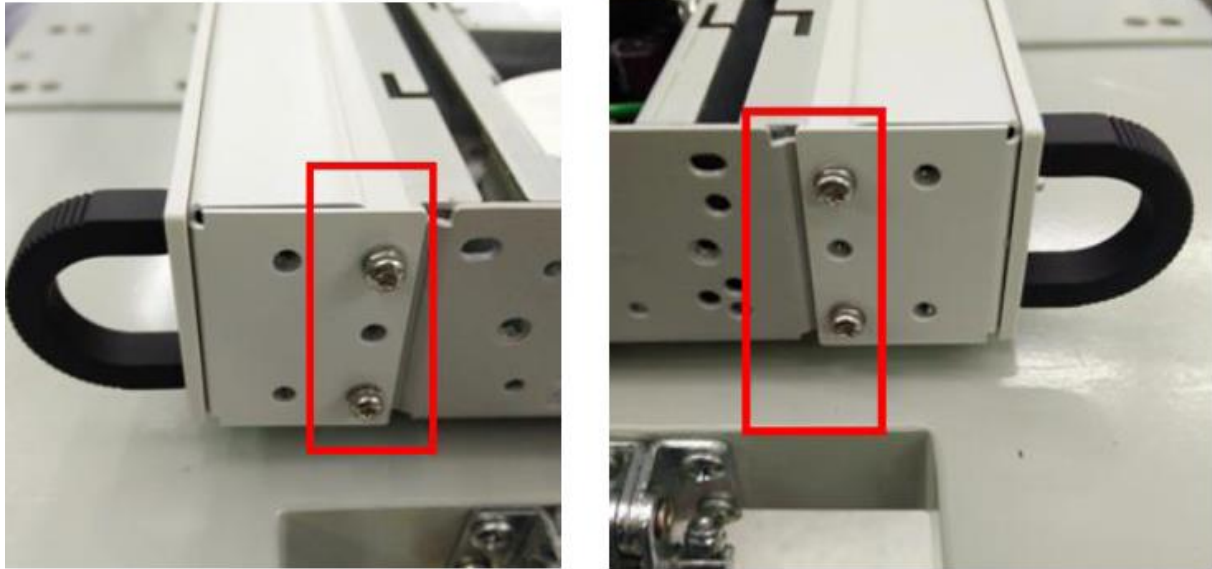

Figure 3
3. Remove 4 screws from both side of front panel as shown in **Figure 3**.